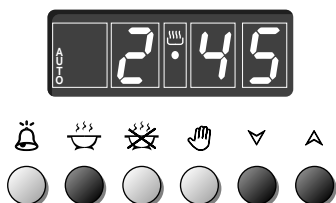

Fig. 10.5
1. Set the length of time you need to cook the food by pushing the  button and the  button to advance, or  to go back if you have passed the desired time (fig. 10.5). The **AUTO** and the  symbol will be on.